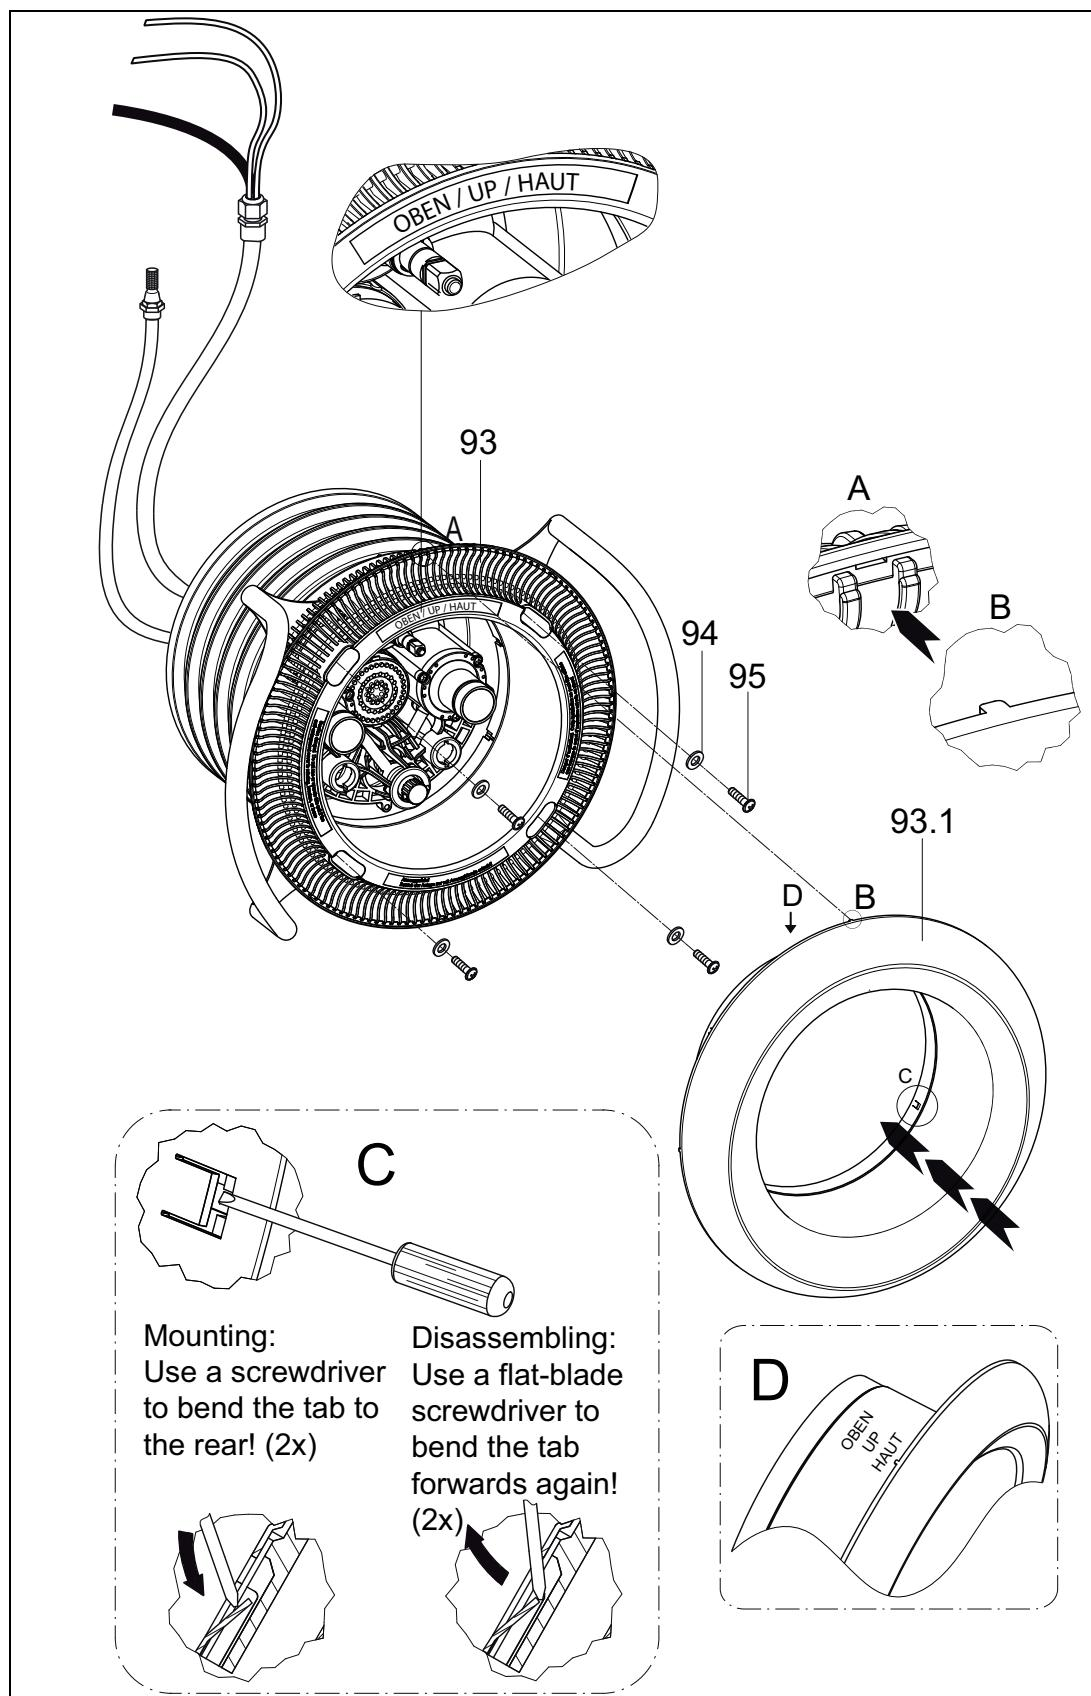

Fig. 11
8. Place the suction panel (**93**) on the support ring (**28**) and fasten with four plain washers (**94**) and four tapping screws (**95**) (*Fig. 11*). Take the mounting position into account!
9. Align the stainless-steel cover with the protruding centring nubs to the existing recesses of the suction panel (93) and press them together by hand. Observe the "UP" marking on the stainless-steel cover. To fasten the cover use a screwdriver to bend the two offset tabs towards the back (*Fig. 11*).